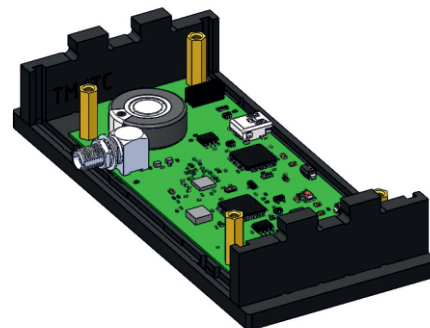

Fig. 76: Mounting side walls
2) Mount side walls on the base plate. To do that, align side wall protrusions with holes in the base plate and latch them (Fig. 76):